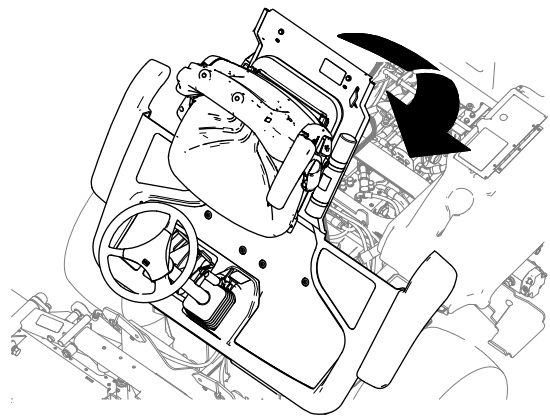

Figure 44
1. Lower the platform carefully (Figure 44).